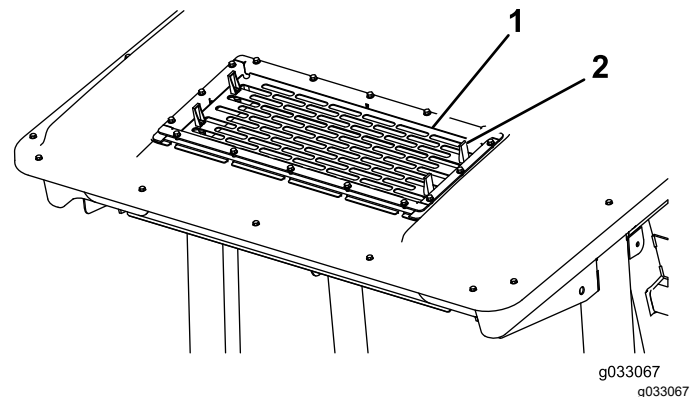

Figure 94
2. Lift the 4 tabs on the air-conditioning screen (Figure 94) and remove the screen from the top of the cab.